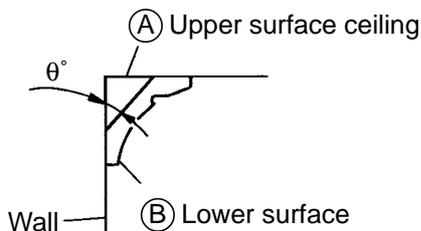
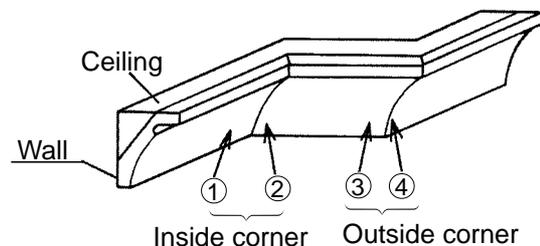
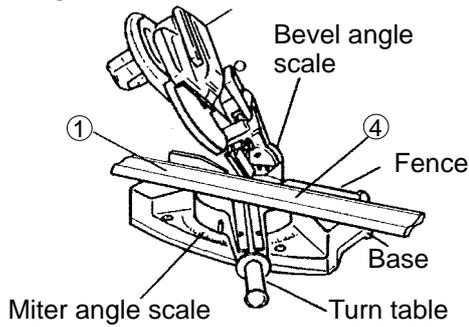
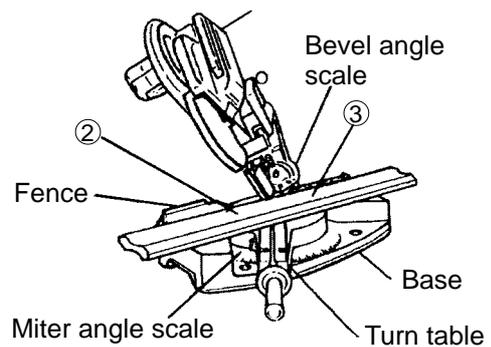

Fig. 38
Fig. 39
Fig. 41
Fig. 42
Fig. 38 shows two common crown molding types having angles of (θ) 38° and 45°. For the typical crown molding fittings, see Fig. 39.
### (1) Setting to cut crown molding at positions ① and ④ in Fig. 39 (See Fig. 41, tilt the head to the left.):
- ① Turn the turn table to the right and set the miter angle as follows:
- ② Turn the head to the left and set the bevel angle as follows:
- ③ Position the crown molding so that the lower surface (A in Fig. 38) contacts the fence as indicated in Fig. 42.
(2) Setting to cut crown moldings at positions ② and ③ in Fig. 39 (See Fig. 42, tilt the head to the left.):
① Turn the turn table to the left and set the miter angle as follows:
② Tilt the head to the left and set the bevel angle as follows:
③ Position the crown molding so that the lower surface (Ⓑ in Fig. 38) contacts the fence as indicated in Fig. 44.
(3) Setting to cut crown moldings at positions ① and ④ in Fig. 39 (See Fig. 45, tilt the head to the right.):
- ② Tilt the head to the right and set the bevel angle as follows:
- ③ Position the crown molding so that the upper surface (Ⓑ in Fig. 38) contacts the fence as indicated in Fig. 47 .
(4) Setting to cut crown moldings at positions ② and ③ in Fig. 39 (See Fig. 46, tilt the head to the right.):
- ① Turn the turn table to the left and set the miter angle as follows:
- ③ Position the crown molding so that the lower surface (Ⓐ in Fig. 38) contacts the fence as indicated in Fig. 48.